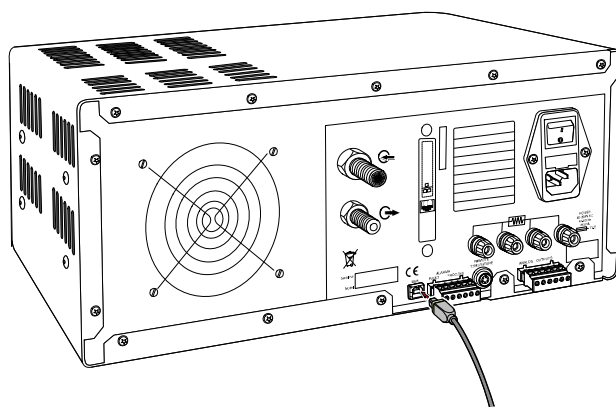

Figure 2.7 Communications Port Connection
1. Check the orientation of the connector and gently push it into the communications socket (see *Figure 2.7*).